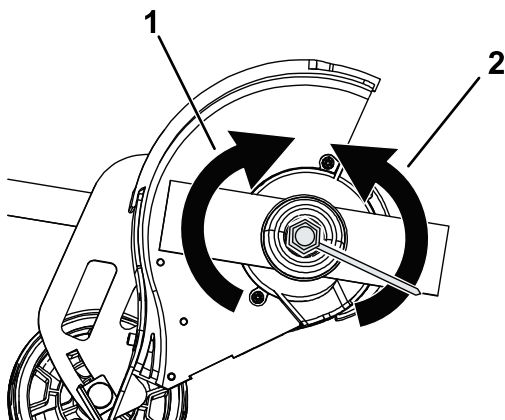

Figure 13
3. Remove the blade nut by turning it clockwise using the edger adjustment tool provided (Figure 13).
6. Tighten the blade nut by turning it counterclockwise with the wrench provided (Figure 13).